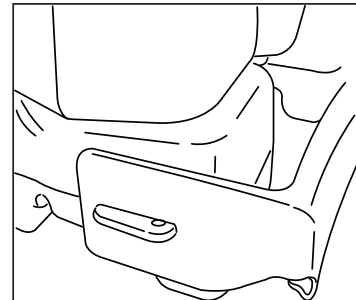

Figure 3.
3. Install the lumbar support over the tabs on the tank base. **See Figure 3.**